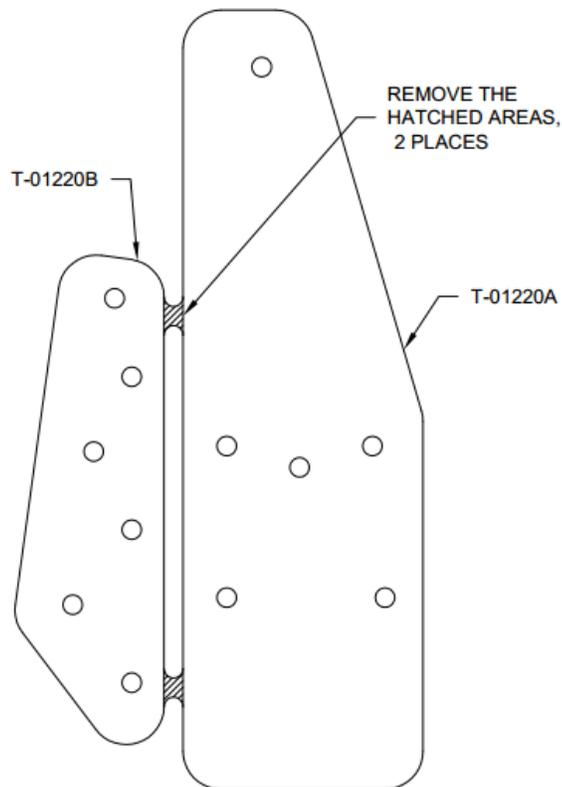

FIGURE 1: SEPARATING THE DOUBLERS
Step 4: Separate T-01220 Doubler into A & B parts as shown in Figure 1.